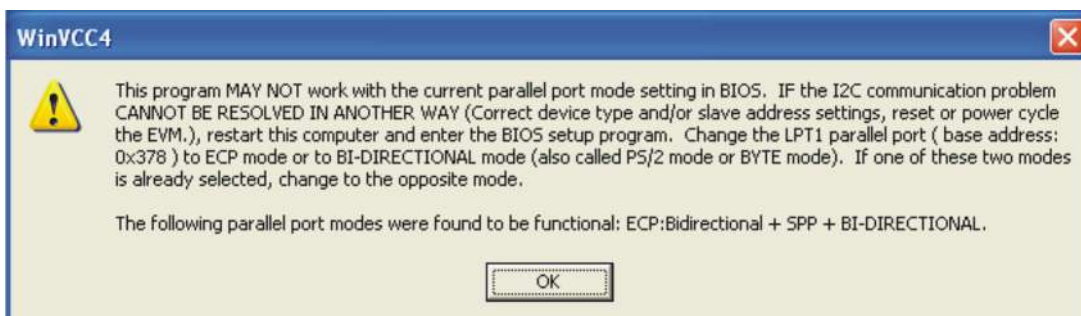

Figure 5-4. Corrective Action Required
- b. The dialog box shown in Figure 5-4 appears. This dialog box appears if the PC parallel port mode setting may need to be changed.